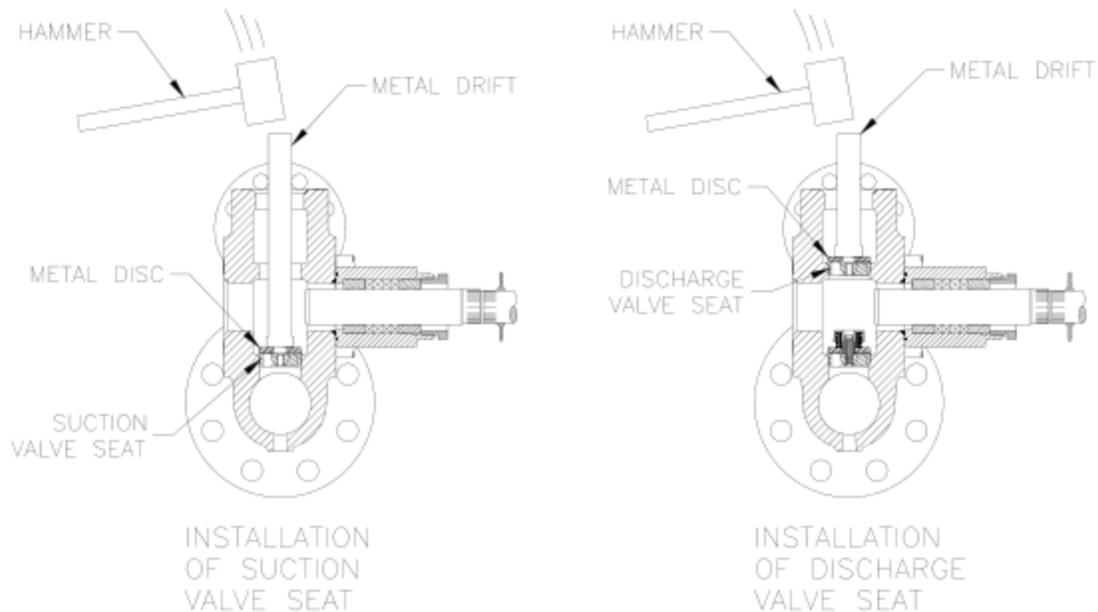

Figure 10
- d. Using a metal plate or old worn valve body, drive the seat into place with several sharp blows from a hammer and bar. See Figure 10.